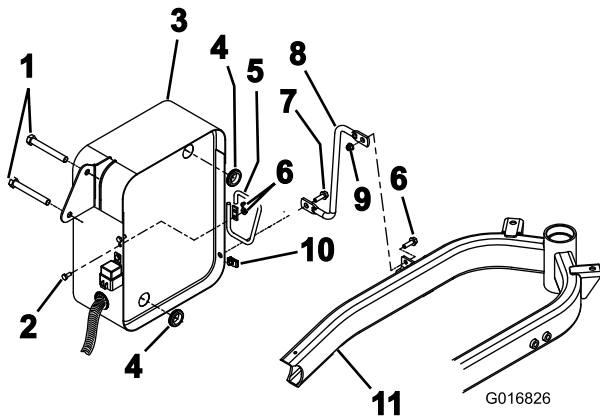

Figure 4
1. Install the 2 rubber grommets onto the back side of the oil cooler support (Figure 4).
3. Install the wireform brace by securing the upper end to the frame and the lower end to the cylinder mount using 2 hex-head flange bolts (5/16 x 1 inch), a flange nut (5/16 inch), and a Tinnerman nut (Figure 4).
Note: If you have a three-wheel drive kit, the wireform brace should be inserted between the 2 hydraulic hoses. Also, install a hose wire form onto the side of the oil cooler support with 2 hex-head bolts (1/4 x 5/8 inch) and 2 hex-flange nuts (1/4 inch) for the 2 hoses to go through it (Figure 4).